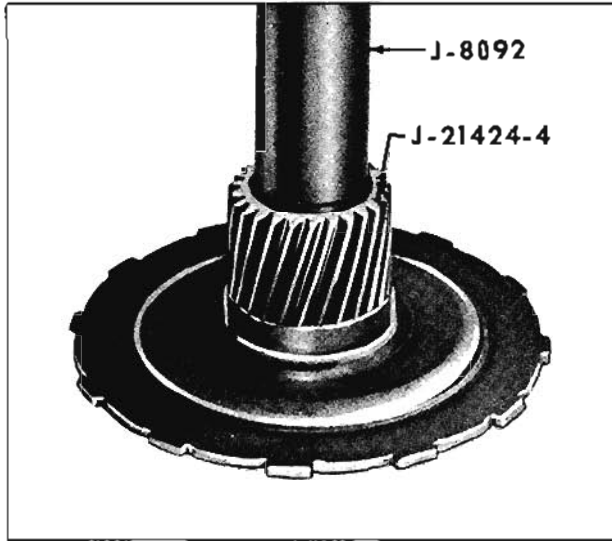

Fig. 6-360 Installing Low Sun Gear and Flange Assembly Bushing
2. Install Tool J-21424-4 into low sun gear. Using Drive Handle J-8092, press bushing into low sun gear until bushing installer is flush with top of low sun gear. (Fig. 6-360)